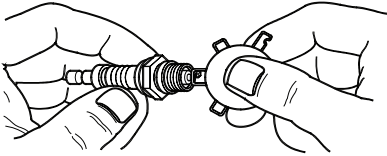

Figure 4-4. Spark Plug
3. Inspect electrode gap with wire feeler gauge and reset spark plug gap to 0.028 - 0.031 in (0.70 - 0.80 mm). See Figure 4-4.